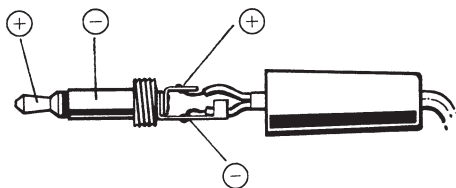
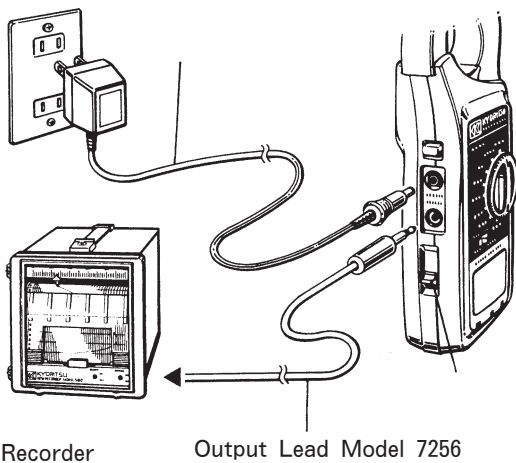

Fig.10
Fig.11
- (1) Slide down the Terminal Cover Knob to disclose the Output Terminal.
- (2) Insert into the Output Terminal the attached plug connected with a lead as per Fig.10 or optional Output Lead Model 7256. (Fig.11)
- (3) Connect the other end of the lead to equipment such as an recorder.
(see Fig.11)